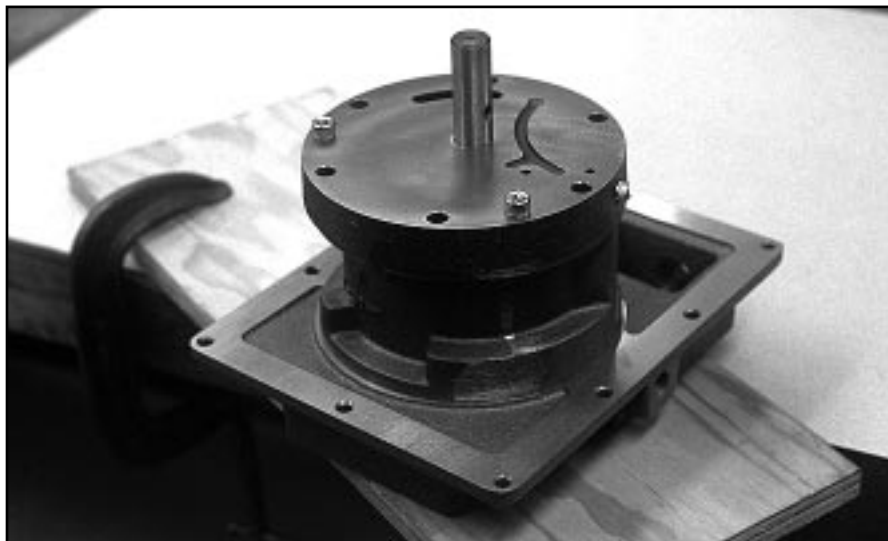

Figure 7 - Center Plate on Shaft
8. Slide center plate (16) over the shaft and position on intake ring. The inlet port to the exhaust stage will be to the far left and the recessed groove running downwards to the right. (See **Figure 7**). Oil the center plate at shaft. Align the screw holes, insert two socket head cap screws (19) in the 4-O'Clock and 8-O'Clock positions, as shown in **Figure 7** and tighten to within 1/2 turn.